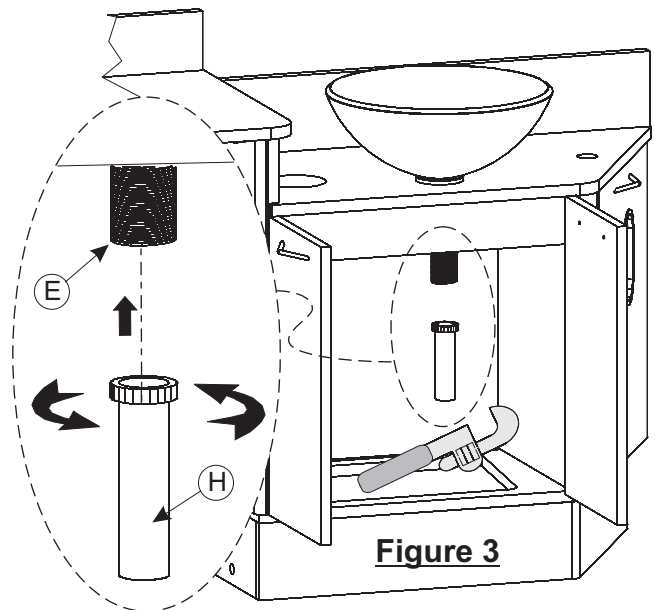

**Figure 2**
Connect Drain Assembly Nut (G) to Drain Assembly (E) along with the Small Plastic Washer (F) and hand tighten to check for alignment then use pipe wrench to complete tightening (see Figure 2).